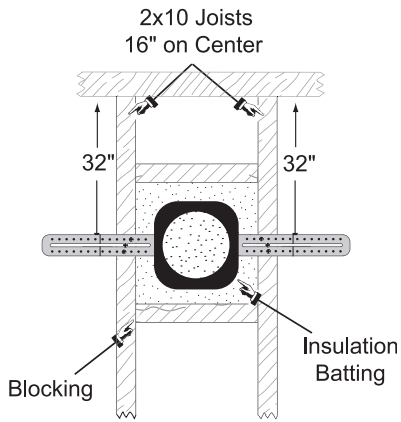

Figure 6
- F. It is recommended to install blocking and insulation for the best possible sound quality. Refer to the OnQ speaker cubic footage chart included with the speaker instruction sheet. (**See Figure 6**)